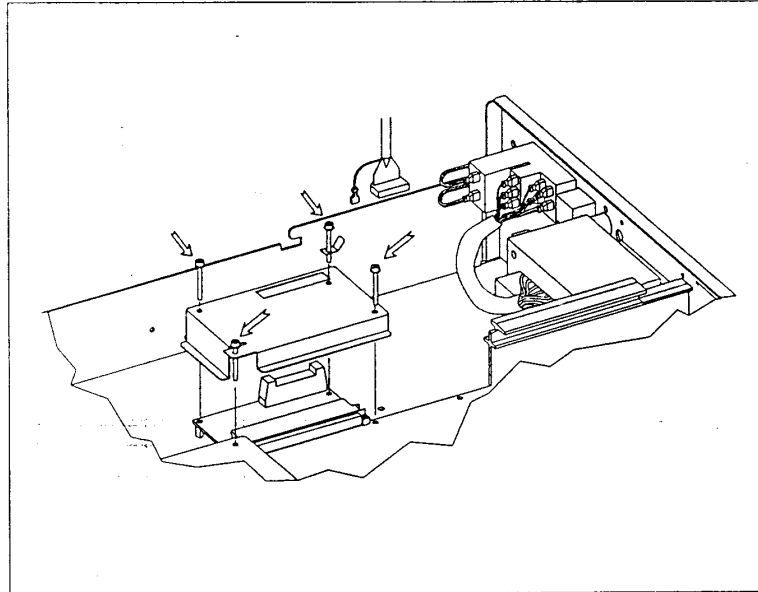

Figure 7-18.
6. Remove the four screws that hold the preview logic board and shield to the chassis (see Figure 7-18).